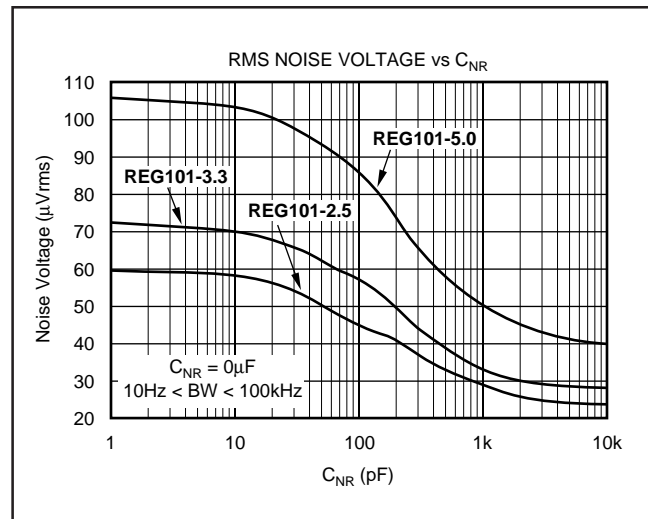
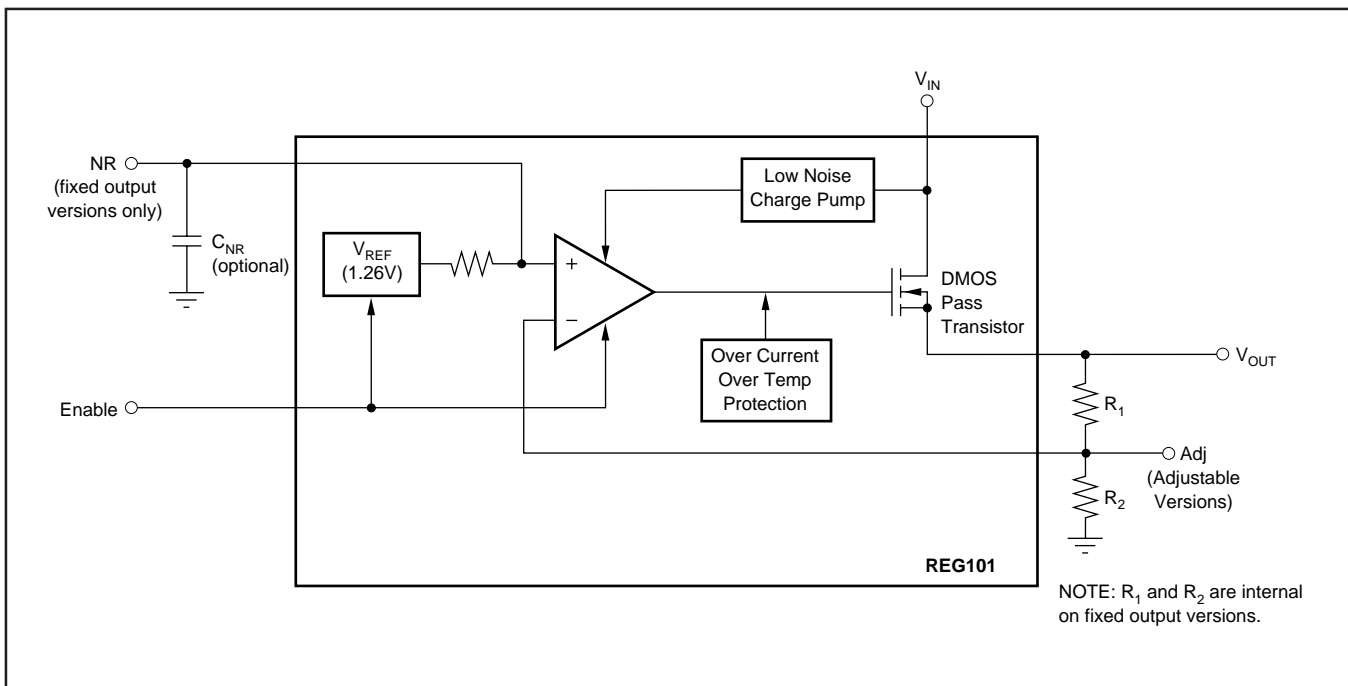

FIGURE 5. Output Noise versus Noise Reduction Capacitor.
FIGURE 4. Block Diagram.
Connecting a capacitor,  $C_{NR}$ , from the Noise Reduction (NR) pin to ground, as shown in Figure 4, forms a low-pass filter for the voltage reference. For  $C_{NR} = 10nF$ , the total noise in the 10Hz to 100kHz bandwidth is reduced by approximately a factor of 2.8 for  $V_O = 3.3V$ . This noise reduction effect is shown in Figure 5 and as “RMS Noise Voltage vs CNR” in the Typical Characteristics section.